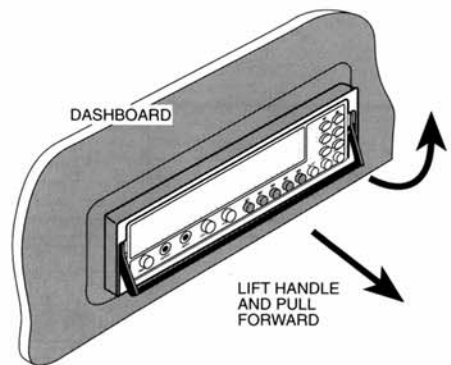

Figure 29. Removing the RTA-33 Chassis from the Mounting Sleeve.
- You can remove the chassis by pushing on either side, raising the handle to release the catch, and then pulling the unit out, as shown in Figure 29.